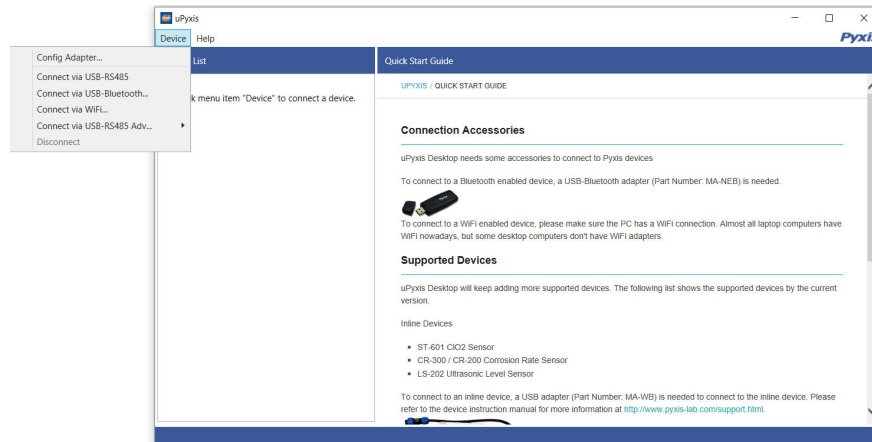

Figure 12.
3. On **uPyxis®** Desktop App, click Device → **Connect via USB-Bluetooth** or **Connect via USB-RS485** (Figure 12).
4. If the connection is successful, the ST-590 and its Serial Number (SN) will be displayed in the left pane of the **uPyxis®** window.